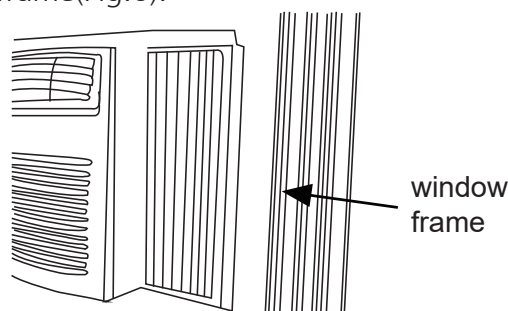

Fig.6
B. Extend the side panels out against the window frame(Fig.6).